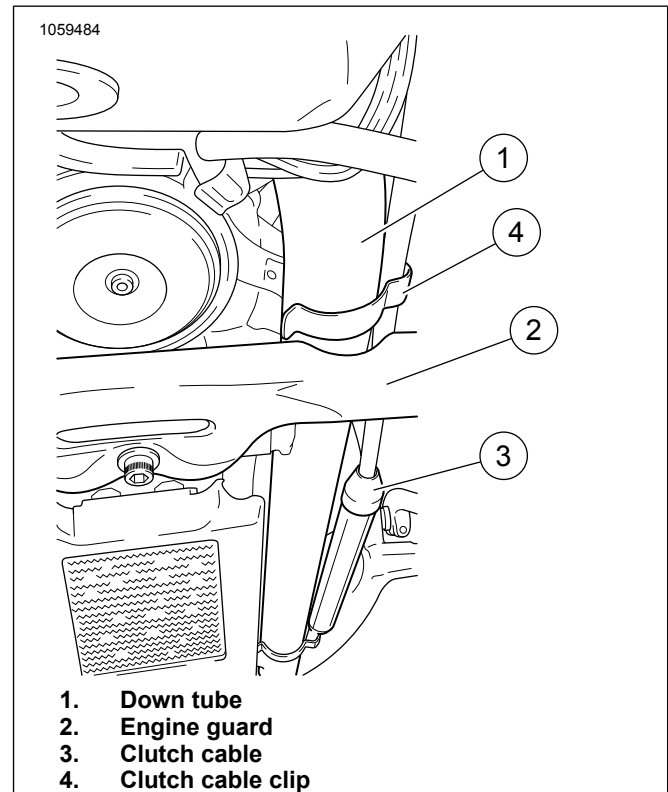

Figure 1. Clutch Cable Routing
1. See Figure 1. Check the position of the clutch cable clip (4). Move clip to location above where engine guard will be located, if necessary. Rotate so clutch cable is not at front of frame tube.